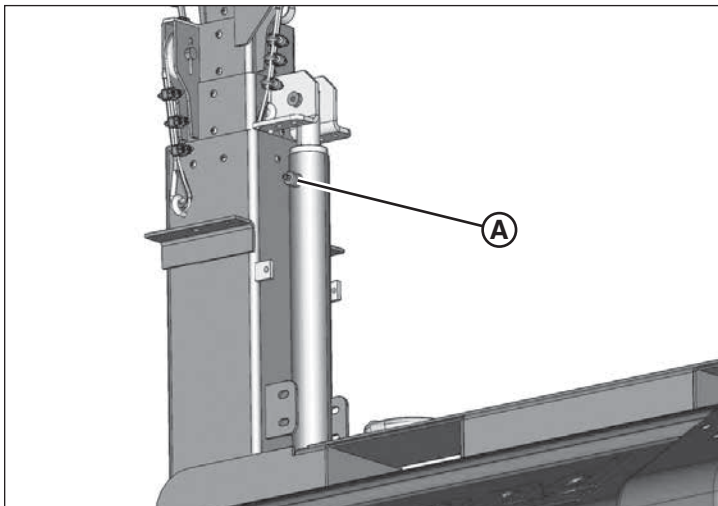

Figure 37
2. Clean the bleeder fitting (A, Figure 37) on the upper end of the cylinder barrel.